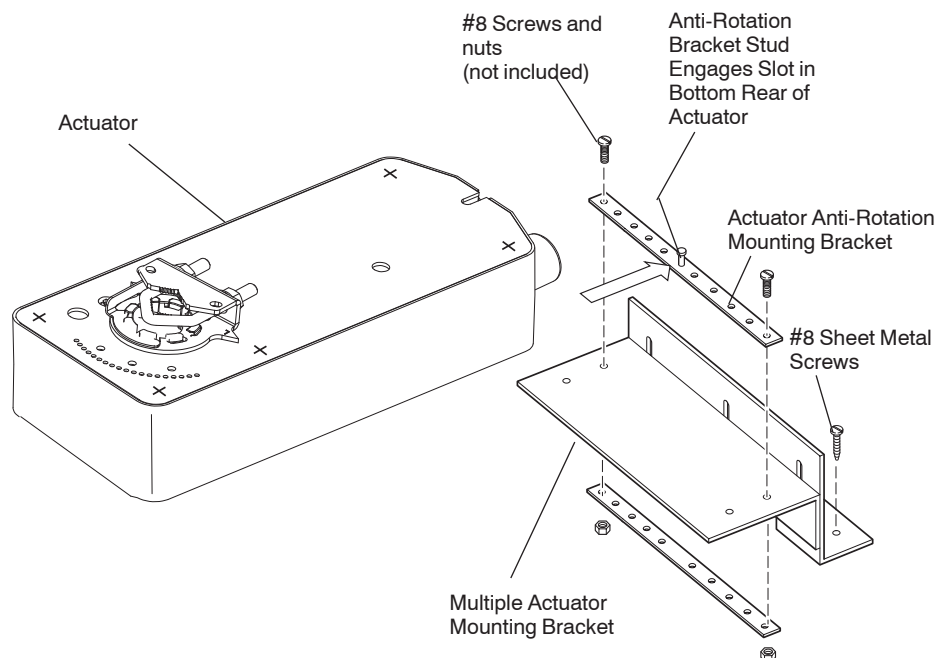

Figure-6 Installation of Multiple Actuator Mounting Bracket AM-673.
5. Loosen the three locking screws which secure the top section of the multiple actuator mounting bracket in position (See Figure-6).
8. Position the second actuator as determined earlier, and place the multiple actuator mounting bracket under it. Position the multiple actuator mounting bracket so that the stud of the actuator's rear anti-rotation mounting bracket is engaged in the slot at the bottom rear of the actuator (See Figure-6).